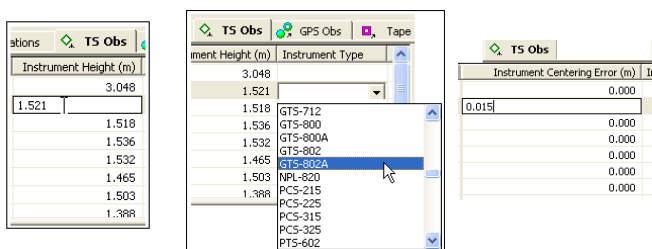

Figure 5-80. Editable Instrument Cells in Tabular View
2. Click a highlighted cell and edit the desired information (Figure 5-80).